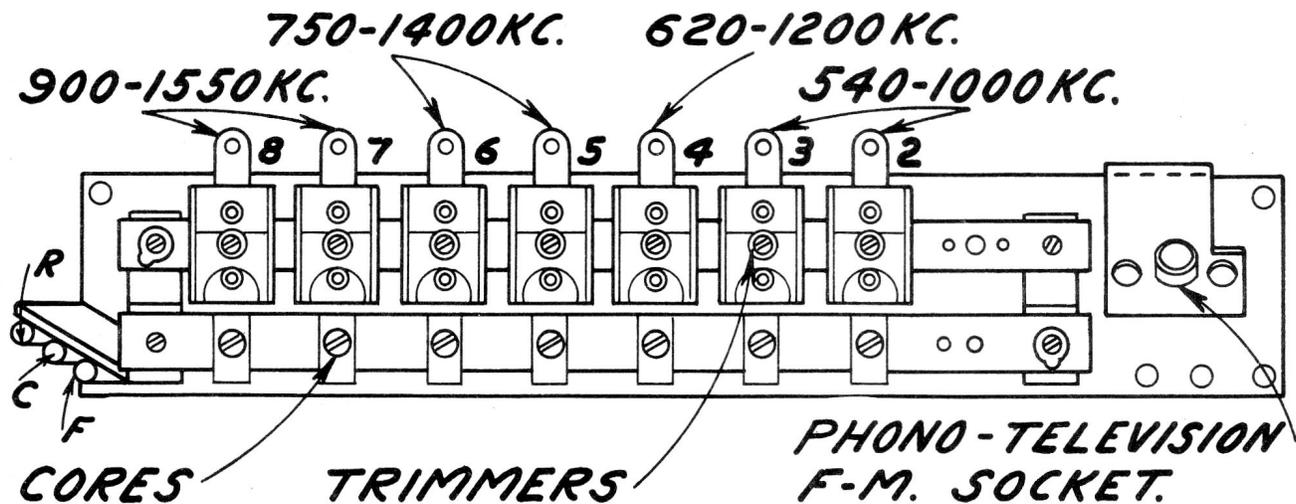

Fig. 4
- (1) Turn "Range selector" to "A" position and manually tune in the first station, say 560 k.c.
- (2) Turn "Range selector" to "P.B." position, press button No. 2 located second from left on front panel.
(3) Referring to Figure 4, adjust core and padder No. 2 for a peak at 560 k.c. This adjustment can be made with the assistance of the "Magic Eye".
(4) Proceed to adjust the other six stations in order of frequency, as outlined above.